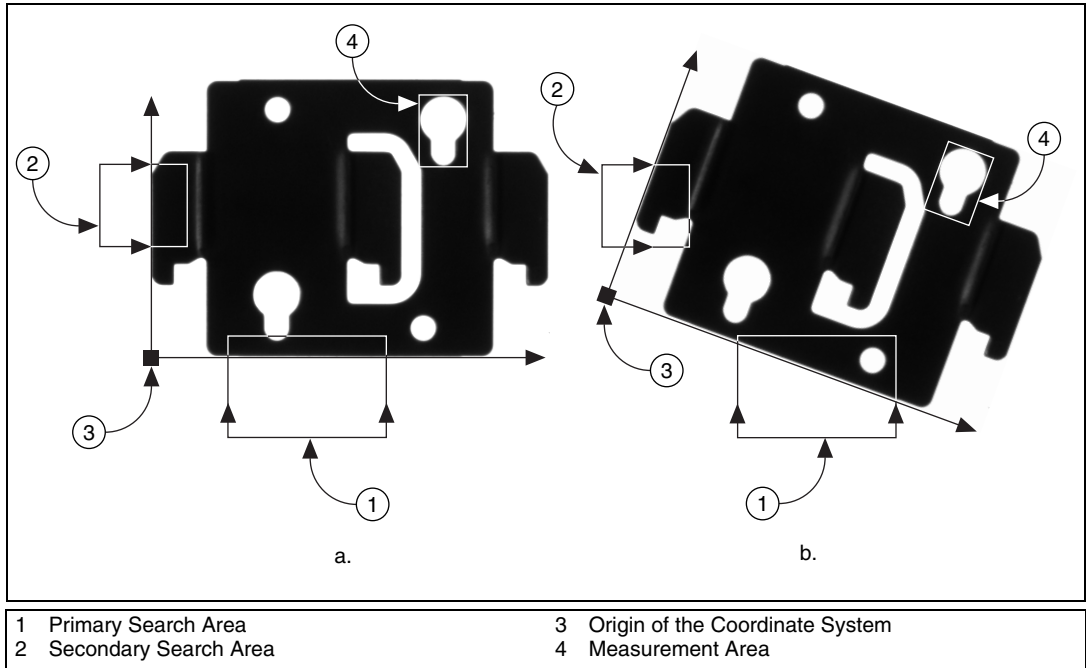

Figure 5-3. Locating Coordinate System Axes with Two Search Areas
- b. If you use `CWMachineVision.FindCoordTransformUsingTwoRects`, specify two rectangular ROIs, each containing one separate, straight boundary of the object, as shown in Figure 5-3. The boundaries cannot be parallel. The regions must be large enough to include the boundaries in all of the images you want to inspect.